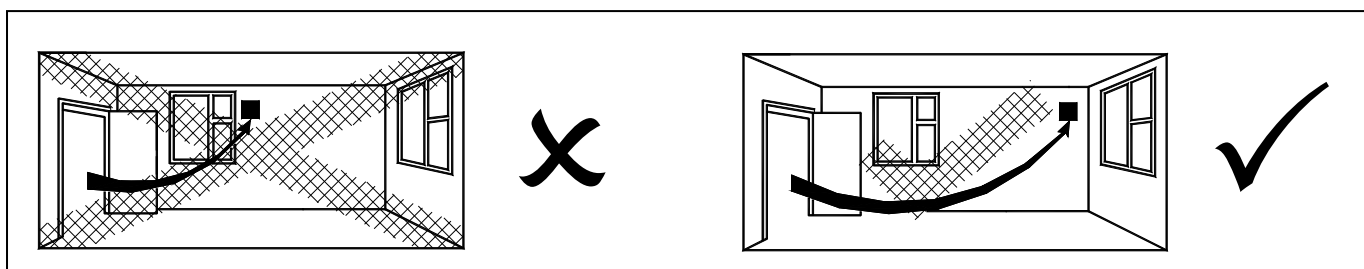

Fig. 1.
2. Removing the grille, Firstly remove the front cover by carefully pulling each corner of the front panel until it is free to be removed from the inner grille (Fig 1). Unscrew the two screws at the bottom of the inner grille. The screws will remain in the inner grille but will be loose when the grille is ready to be removed (Fig 1). Lift the inner grille from the bottom edge ensuring not to damage the sensor cable (TM model only) attached to the front assembly and Base Housing (Fig 6).
5. Removing the grille, Firstly remove the front cover by carefully pulling each corner of the front panel until it is free to be removed from the inner grille (Fig 1). Unscrew the two screws at the bottom of the inner grille. The screws will remain in the inner grille but will be loose when the grille is ready to be removed (Fig 1). Lift the inner grille from the bottom edge ensuring not to damage the sensor cable (TM model only) attached to the front assembly and Base Housing (Fig 6).